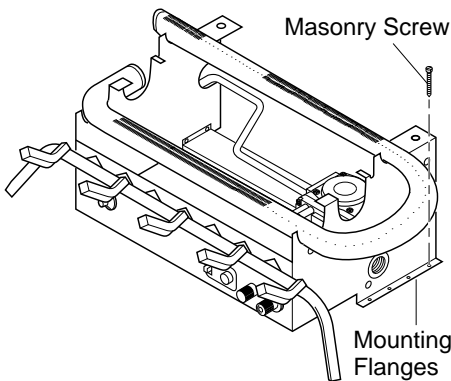

Figure 12 - Attaching Base Assembly to Fireplace Floor
4. Mark screw locations through holes in mounting flanges (see Figure 12, page 11). If installing in a brick-bottom fireplace, mark screw locations in mortar joint of bricks.
- Attach base assembly to fireplace floor using two masonry screws (in hardware package) (see Figure 12).
Install sediment trap in supply line as shown in Figure 12. Locate sediment trap where it is within reach for cleaning. Locate sediment trap where trapped matter is not likely to freeze. A sediment trap traps moisture and contaminants. This keeps them from going into heater controls. If sediment trap is not installed or is installed wrong, heater may not run properly.